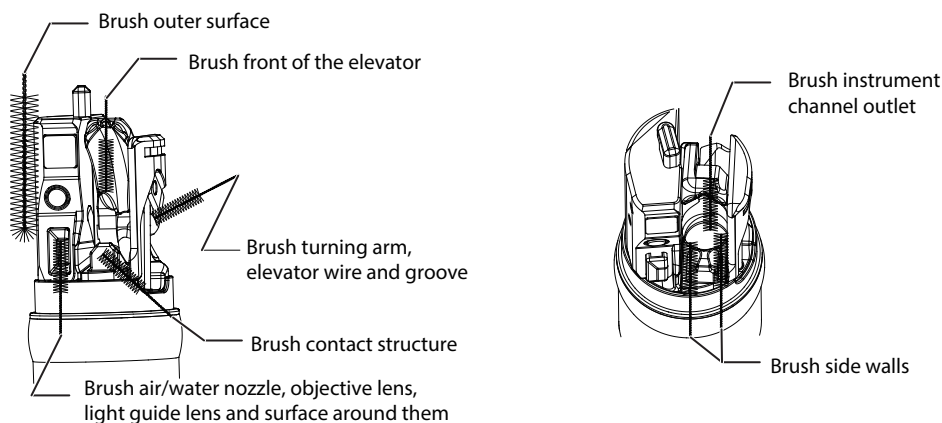

Figure 5-22 Brushing the Distal End 1
- e. Rotate the elevator control knob clockwise to lower the forceps elevator and use the channel-opening cleaning brush to brush all parts of the distal end in accordance with Figure 5-22. Repeat the step at least 3 times to remove all debris.